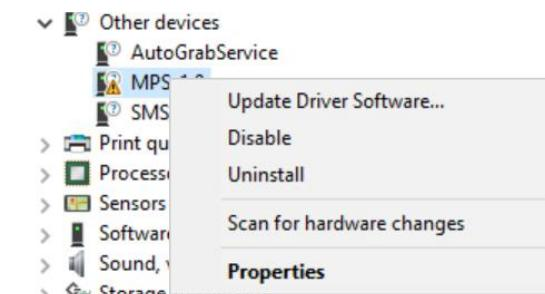

Figure 12: Updating the Driver Software
1. Open the Device Manager and select “Update Driver Software” (See Figure 12).